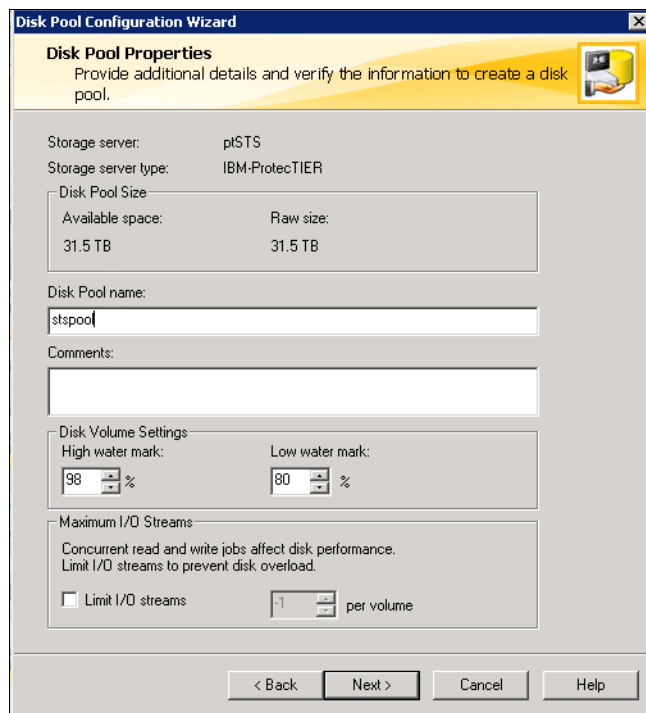

Figure 9-27 Disk Pool Properties window
4. Define the disk pool name by entering the name of disk pool and clicking **Next** (Figure 9-27).